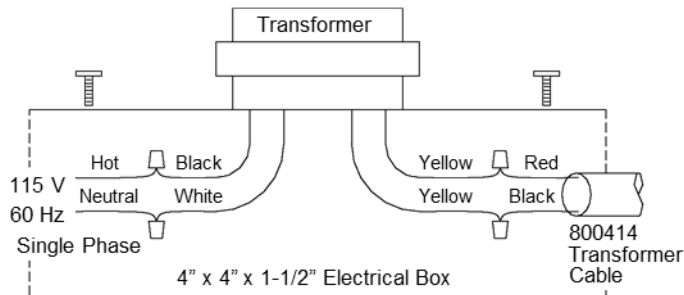

Figure 12: Transformer Installation
2. Refer to Figure 10 and Figure 11 wiring diagram for pressure sensor, DIM, TSI® Damper/actuator, and TSI® flow station wiring. Refer to Figure 12 wiring diagram for transformer wiring.
3. Connect 115 VAC line voltage HOT wire to BLACK wire on transformer and NEUTRAL wire to WHITE wire on transformer (Figure 12).